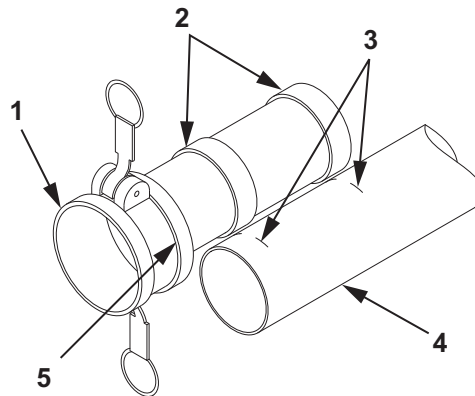

Figure 3. 4 X 10 Ft Suction Hose Assembly Repair.
8. Using the male or female coupling half (Figure 3, Item 1) as a guide, align the cut end of one section of hose (Figure 3, Item 2) with the machined stop (Figure 3, Item 3) of the male or female coupling half (Figure 3, Item 1).
9. Using a marking pen, mark two lines (Figure 3, Item 4) on the hose (Figure 3, Item 2) where the hose barbs (Figure 3, Item 5) will be located.